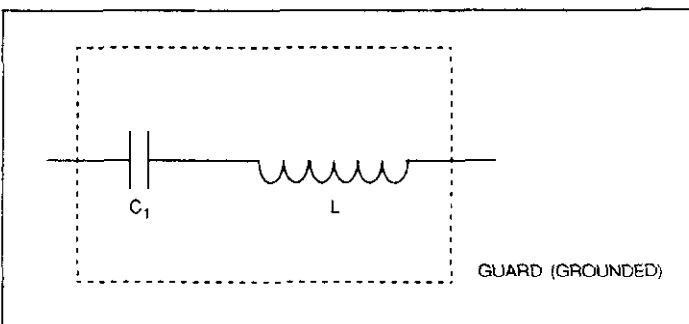

Figure 2-2. High Frequency Model
As shown in Figure 2-2, the capacitor in the metal box can be modeled as an ideal capacitor (C_1) whose value is the measured 1kHz value in series with an inductor (L) representing the inductance of the capacitor, capacitor leads, and BNC connectors. Any shunt capacitance between this network and guard is ignored by the capacitance meter, which makes a guarded measurement.